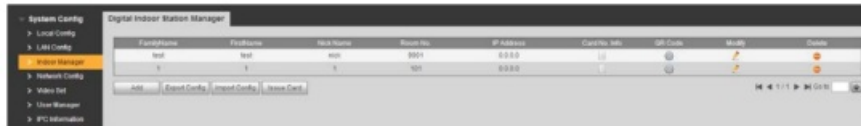

Figure 3-8
Step 5. Select System Config>Indoor Manager>Indoor Manager. See Figure 3-8. Click Add to add VTH info.